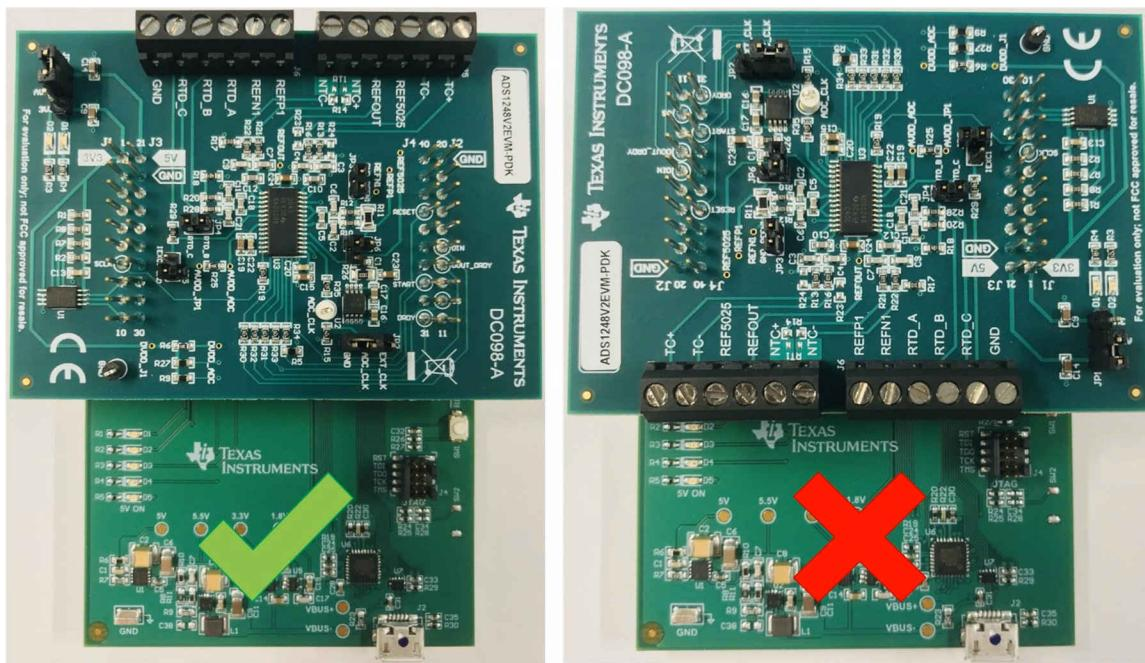

Figure 2-1. Connecting the ADS1x48EVM to the PAMBoard
2. If necessary, connect the ADS1x48EVM to the PAMBoard as shown in the left image in Figure 2-1.